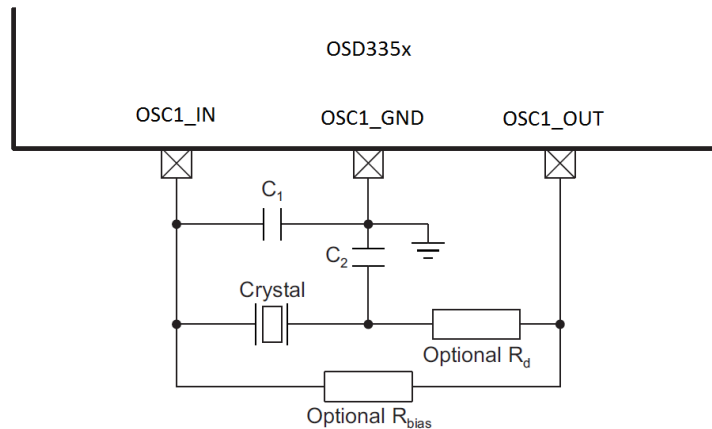

Figure 47 Crystal Oscillator circuit for OSC1
- The crystal oscillator circuit for OSC1 is shown in **Figure 47** and is the same as the oscillator circuit for OSC0. For the reference design, we do not need either  $R_{bias}$  or  $R_d$  since OSC1 has an internal resistor. However, as discussed above, we have placed a footprint for  $R_{bias}$  but not for  $R_d$  to give us the flexibility to adjust the crystal performance without increasing the design cost. For recommended crystal circuit component values for OSC1, check **OSC1 Crystal Circuit Requirements** table in the AM335x datasheet.